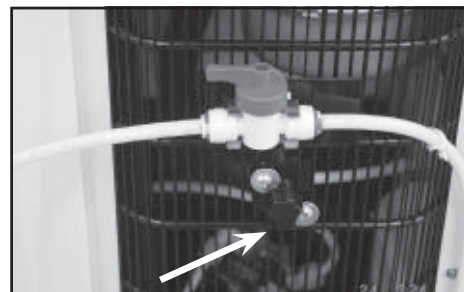

Fig. 18
9. To drain any remaining water from the reservoirs, remove (unscrew) the drain cap and plug located at the rear of the dispenser (See Fig. 18). Collect the water into a container/bucket. **IMPORTANT:** Remember to re-install the drain cap and plug and tighten (See Fig. 18).
3. Place a container/bucket beneath the drain valve located at the rear of the dispenser (See Fig. 18).